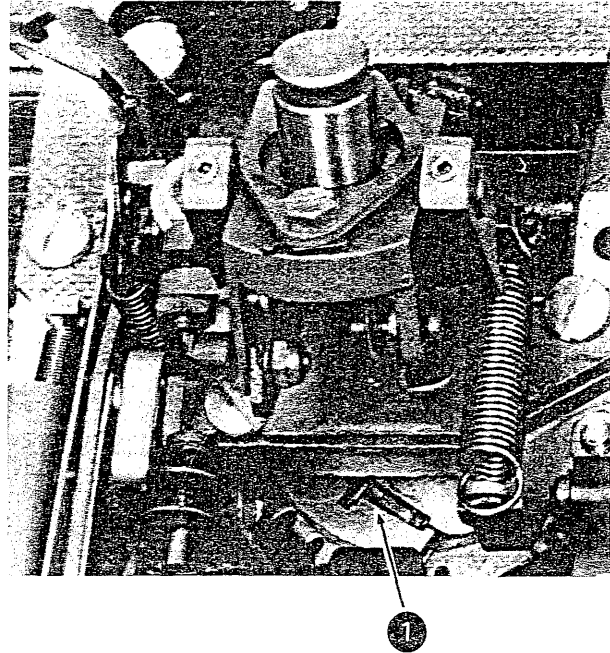

Figure 4-18. Rotate-Tape Replacement
7. Leaving the typehead on the printer and holding it securely, withdraw the detent from the typehead. Rotate the typehead three full turns counterclockwise, allowing the detent to reengage the typehead each time you remove your hand to take a new grip on the head. Continue into the fourth turn until the T-slot in the rotate pulley is accessible at the front of the carrier (No. 1, Figure 4-18). Now fully seat the detent.
8. Thread the eyelet end of the new tape through the front of the carrier and through the LH sideframe. Insert the T-end in the slot (No. 1, Figure 4-18), turn the top edge of the tape to the front as it leaves the left end of the rocker shaft, and thread the tape around the pulleys. Attach the eyelet end to the RH side of the carrier. (Withdraw the detent, force a tilt-3, and allow the detent to reenter.)